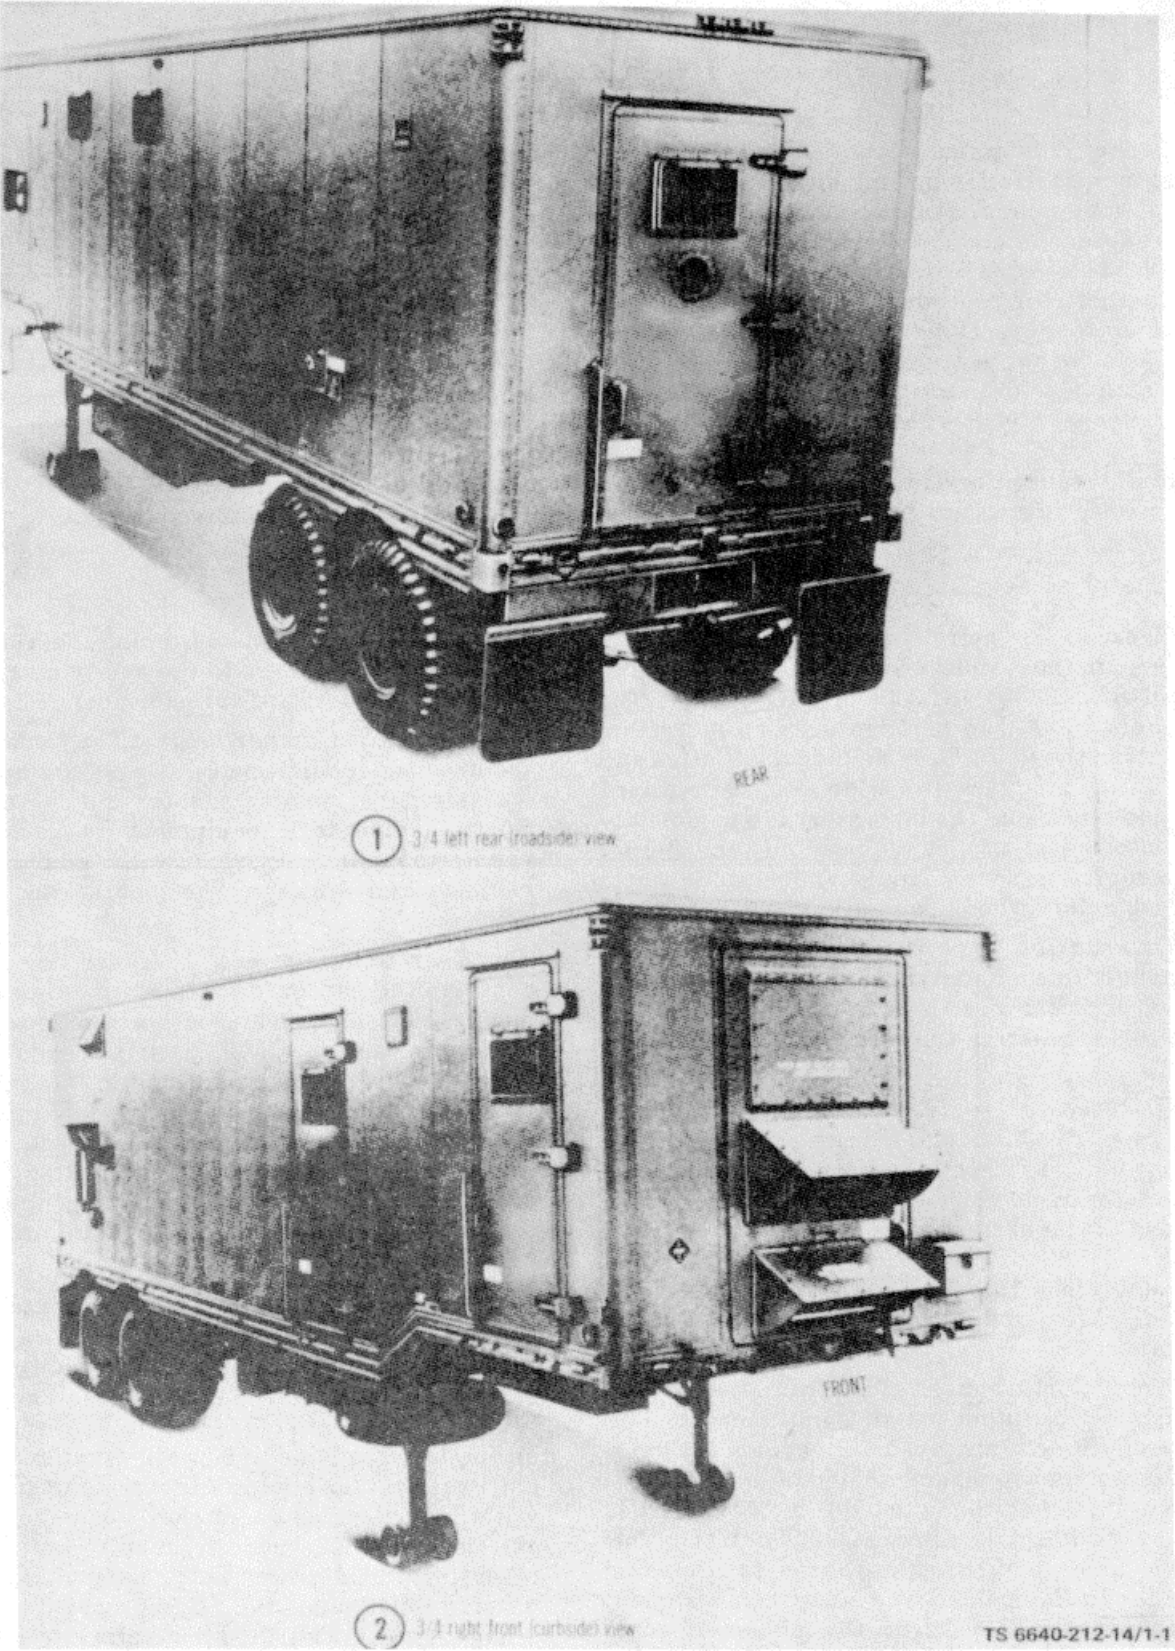

Figure 1-1. Exterior of Mobile Petroleum Laboratory Trailer
1-4. General. The petroleum testing laboratory is contained in the XM822 4-wheel, 10-ton semitrailer van (NSN 2330-00-122-4966) (fig. 1-1). The laboratory is used to perform tests on petroleum products in the field. Tests include qualitative and quantitative analyses of a wide range of military fuels and lubricant. The laboratory is a completely self-contained unit which requires only an external power source, a water supply and a waste water disposal facility when in operation.
a. Orientation to Laboratory and Van. Throughout this manual the terms right, left, front, and rear indicate directions from the viewpoint of the operator entering the rear door of the van (1, fig. 1-1).
1-6. Laboratory Exterior. The van exterior (fig. 1-1) incorporates various items for laboratory. Special vent ports are on the right (curbside) rear exterior wall and are used with the exhaust fan located in the rear compartment. Two small vents on the left (roadside) rear wall (1) relieve the propane gas tank located in the rear compartment. A water inlet, located on the left (roadside) forward exterior wall, is used to supply water to the laboratory. The power entry receptacle and the purging timer panel (fig. 1-3) are located on the left (roadside) rear wall. Roadside and curbside compartments on the van undercarriage provide